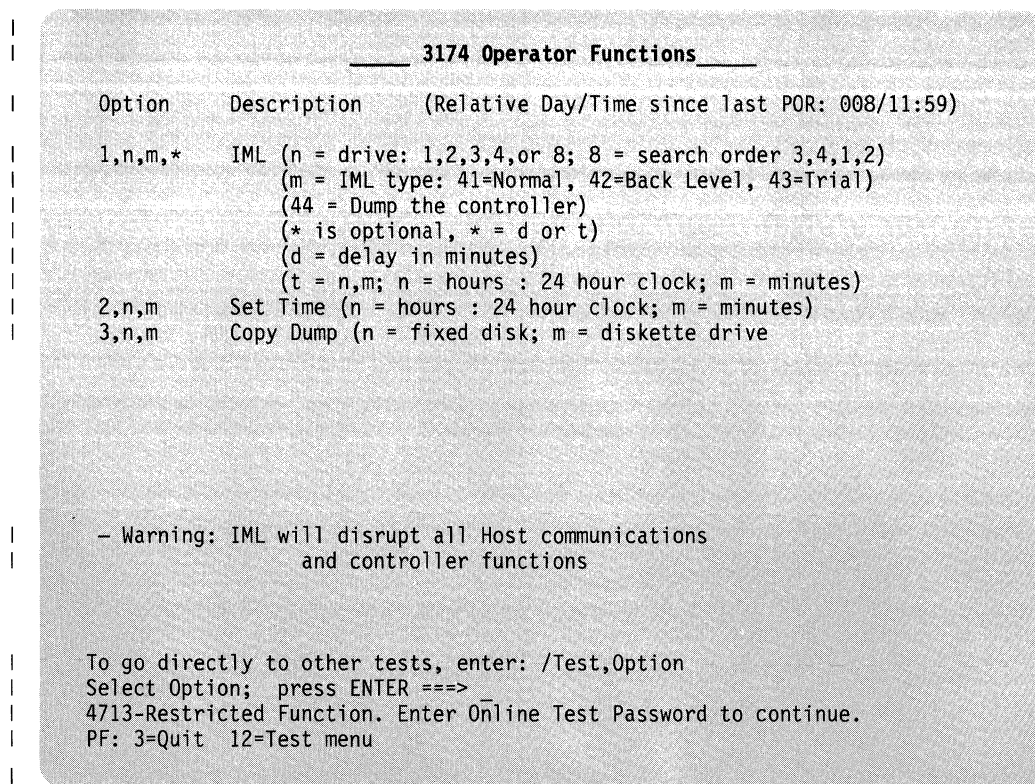

Figure 4-69. Example of a 3174 Operator Functions Panel After Completing Option 2
**Note:** If you are using a NetView terminal, the password **will appear** on the display screen as you type. At the completion of this test, the new time appears in the upper right-hand section of the panel. Figure 4-68 on page 4-95 shows the time before Test 14, Option 2 was run; Figure 4-69 on page 4-97 shows the time changed after the test was run.